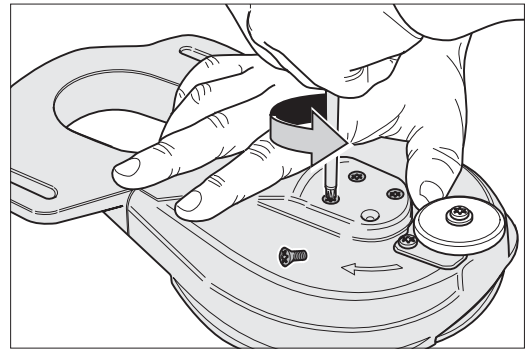

Fig. 34 Unscrew the four fixing screws of the steel sanding disc.
- 8 Use the universal spanner to loosen the four fixing screws of the steel sanding disc and unscrew them (Fig. 34).